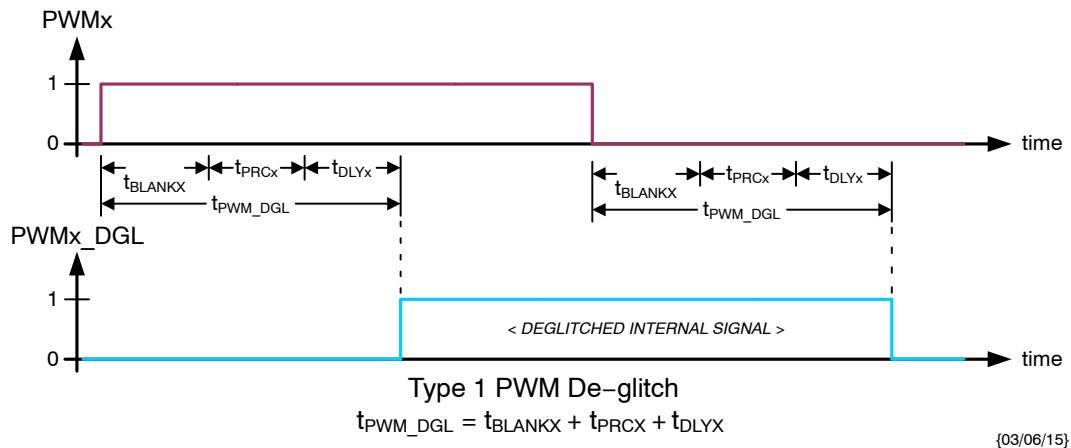
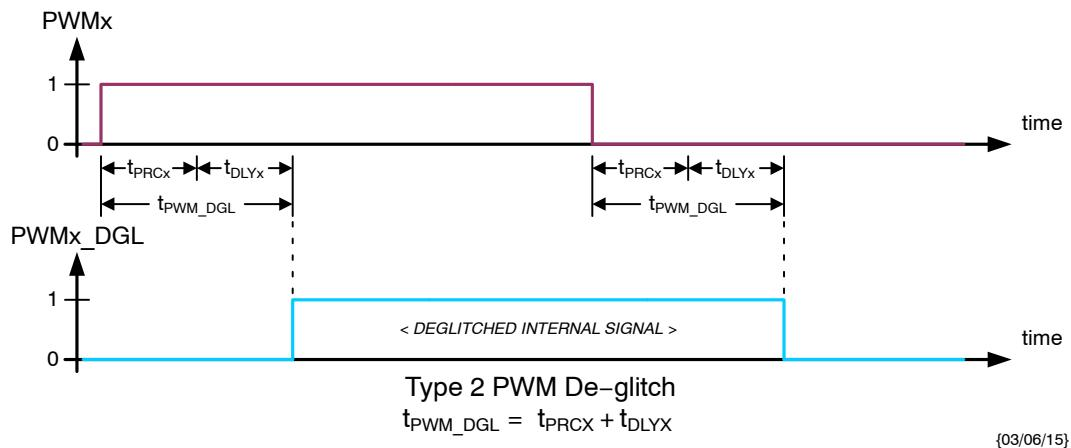
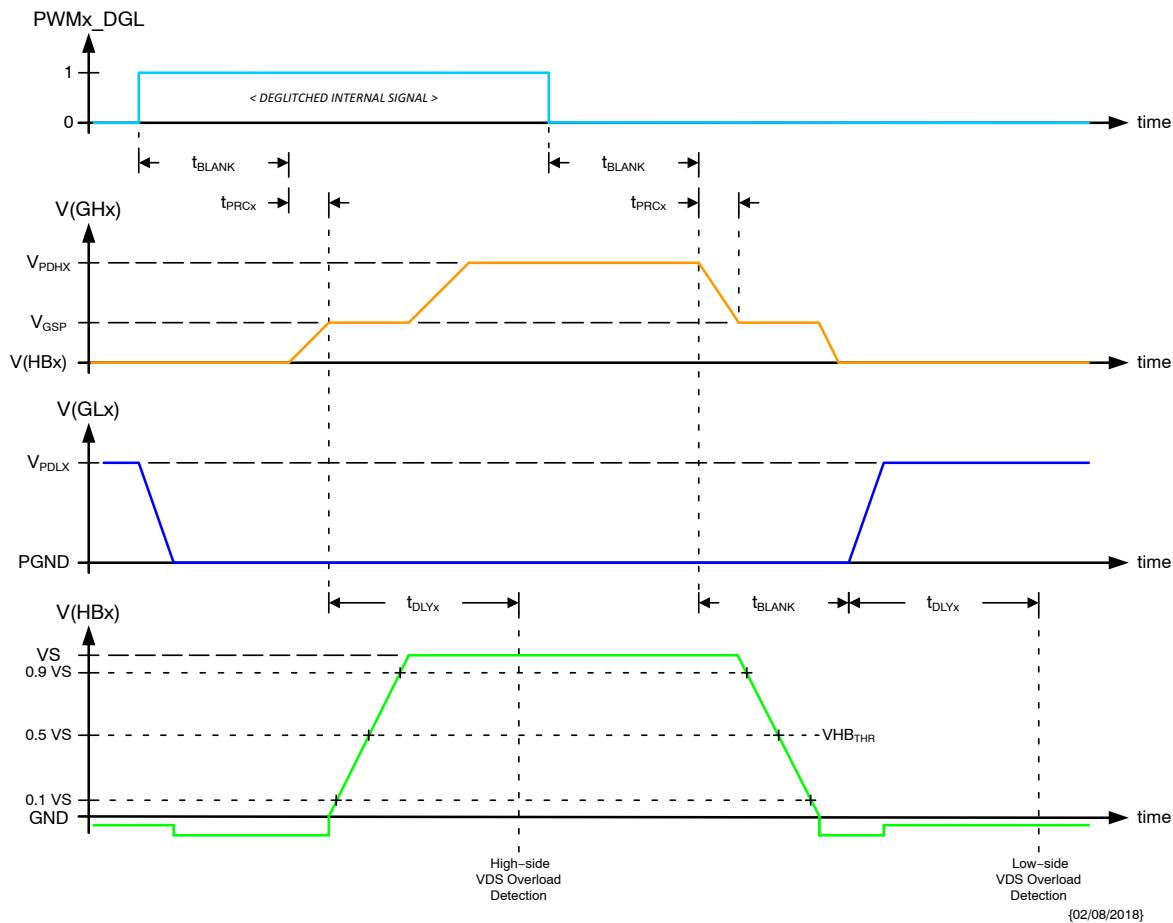

Figure 10. Type 1 PWMx Input De-glitch - CR14.DGLx = 0
Figure 11. Type 2 PWMx Input De-glitch – CR14.DGLx = 1
Figure 12. HBx Output Switching in Half-Bridge Configuration
When multiple PWM_x inputs are needed to be active, the scheduled PWM signals should be offset in time to avoid degradation of the VDS overload detection due to crosstalk (see § *Overload Protection*). The minimum offset should be based on the t_{PWM_DGL} times appropriate for the respective channels (see § *Switching Behavior of Half-bridge Drivers*, Figure 10 and Figure 11).
- adaptive PWM input de-glitch construction when in half-bridge configuration is selected by $DGLx[6:0]$ bits (see Figure 10, Figure 11, Table 21 and Table 22).
In order to not overload the charge pump circuit in case of loss of VS or in case of a disconnected security switch, the steady state output current of the high-side gate drivers is limited to I_{GHX_SS} after $t_{TIMEOUT}$ (see $I(GHx)$ in Figure 12 and § *Electrical Characteristics: Half-Bridge Pre-Driver Outputs*).
When operating in PWM mode, type 1 de-glitch is selected when CR14.DGLx = 0 (see Figure 10) and the adapted time is given by:
Type 2 de-glitch is selected when CR14.DGLx = 1 (see Figure 11) and the adapted time is given by:
When operating in PWM mode, the timing of the gate drivers is according to Figure 12.
- the $PWMx_DGL$ resulting from the channel's operating configuration (see § *Switching Behavior of Half-bridge Drivers*, Figure 10 and Figure 11);
The appropriate latch is set (after the adapted t_{PWM_DGL} - see Figure 10 and Figure 11) at the start of the switch activation (see V(HBx) in Figure 12). In the case of the high-side MOS, the delay time t_{DLYX} is started at the end of the pre-charge time (t_{PRCX}). In the case of the low-side MOS, the delay time t_{DLYX} is started concurrent with the GLx turn-on current (see I(GLx) in Figure 11). At the end of time t_{DLYX} the switching node voltage is compared with the appropriate VDS_{THR_R} or VDS_{THR_F} overload detection threshold (see § *Electrical Characteristics: Half-Bridge Diagnostics*).